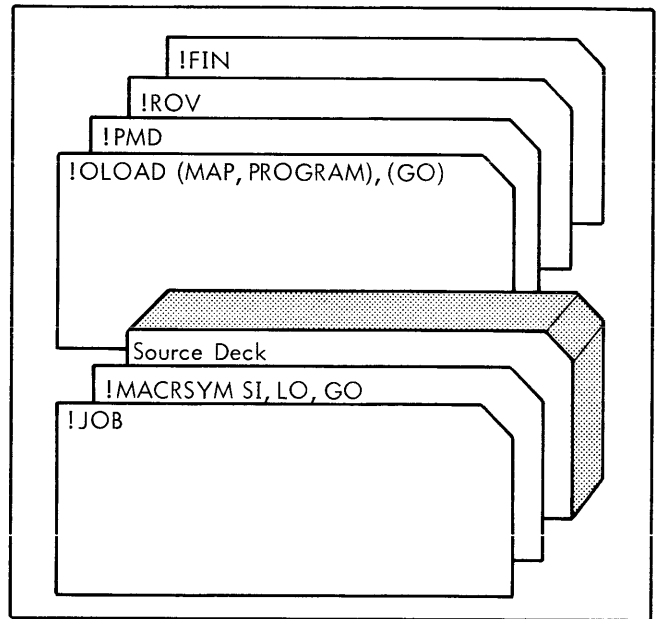

Figure 3. Load and Go Deck Example
"Load and Go" jobs are programs that immediately go into execution mode when the source program is successfully assembled or compiled. That is, the object program is loaded into core from a temporary file on the RAD when the assembly is completed instead of being manually loaded from a card or tape device by the operator. Figure 3 illustrates a typical "Load and Go" job.
In Figure 3, the binary object program produced from the assembly is placed in a temporary (GO) file from which it is later loaded into core for execution. The resultant file is always temporary and can not be retained from one job to another. The Overlay Loader will load the program root into the OV file for execution. A postmortem dump is specified.